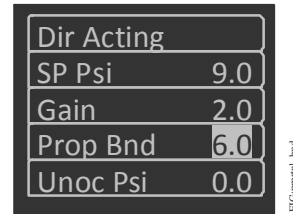

Figure 13: Changing the Proportional Band – Proportional Range/Throttling Range
11. Change the **proportional band – proportional range/throttling range** as desired (Figure 13).